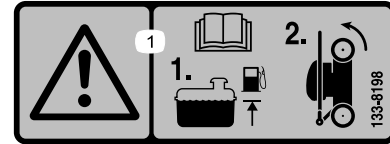

Figure 21
1. Ensure that the level of fuel in the fuel tank is no higher than what is recommended by the engine manufacturer; refer to the engine manufacturer's decal on the engine (Figure 21).